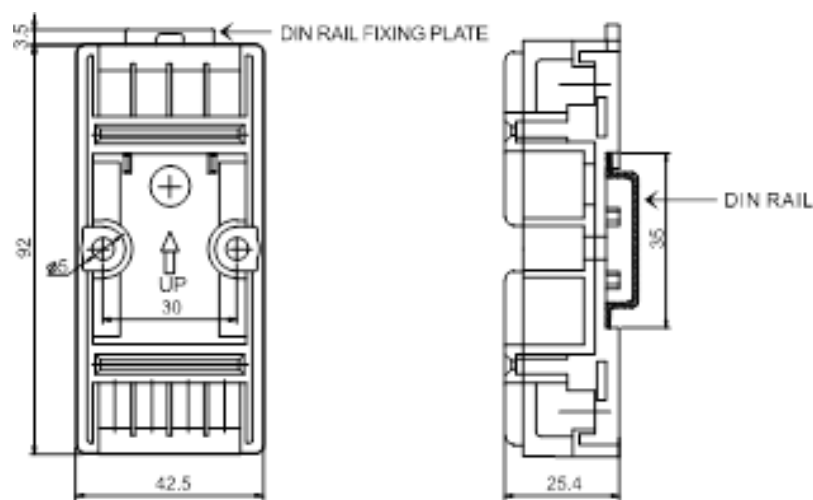

Fig. 4: Dimensions (DIN RAIL mount)
* If using the DIN RAIL mounting option, refer to Fig. 4.